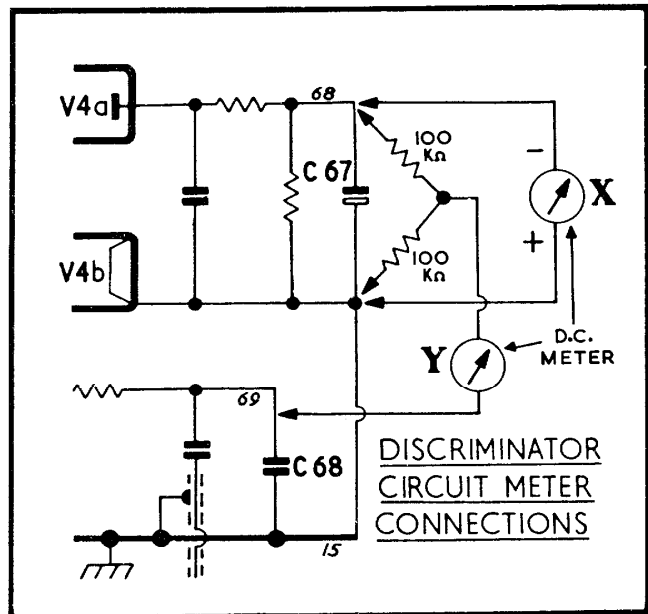

Fig.3.
F.M. circuits. Turn the Volume control to minimum if the loudspeaker or output meter is not connected. Check that the zero adjustment of the d.c. meter is correct. Connect the two 100K Ω resistors as shown in Fig. 3. Connect the d.c. meter, switched to the 10V range, in position X (Fig.3) when adjusting the i.f. and r.f. trimmers, including L21. Connect the d.c. meter in position Y (Fig.3), using the 100K Ω resistors mentioned above, when adjusting the discriminator transformer (last f.m. i.f.t.) secondary (L22). Adjust the signal generator attenuator so that during alignment, the d.c. voltage across C67 (meter position X) is maintained as near as possible to 8 volts without the damping unit in circuit, and 4 volts with the damping unit in circuit. If necessary, roughly align all the f.m. i.f. transformers so that the appropriate output can be obtained. The third f.m. i.f. transformer secondary winding (L22) must be adjusted for exactly zero d.c. volts with the d.c. output meter connected in position Y.